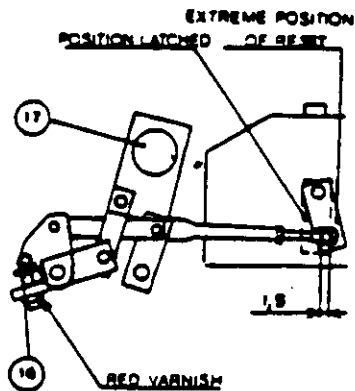

Fig. 14
- 1) Breaker equipped with signal indication with memory for overload and short circuit release (with or without indication.) (Fig. 14).
a) Adjustment. When breakers are equipped with this accessory, it is necessary to place breaker in open position and adjust screw (16) to effect latching the release. A very distinct click indicates latching. To insure a margin of safety, unscrew  $\frac{1}{4}$  of a turn.
- 1) Adjustment. With the breaker in the open position and the release bar latched as illustrated in Fig. 14, adjust screw (30) lengthening linkage until stirrup is against stop (29), then back off ½ turn.